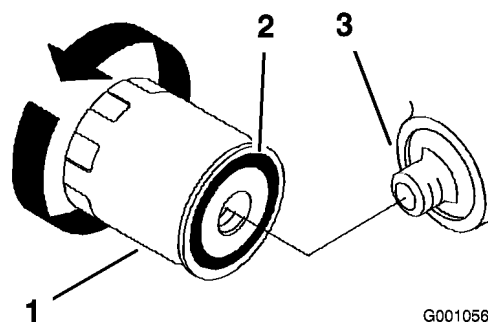

Figure 36
- Remove the old filter and wipe the filler adapter gasket surface (Figure 36).
- Apply a thin coat of new oil to the rubber gasket on the replacement filter (Figure 36).
- Install the replacement oil filter to the filter adapter, turn the oil filter clockwise until the rubber gasket contacts the filter adapter, then tighten the filter an additional 2/3 to 1 turn (Figure 36).